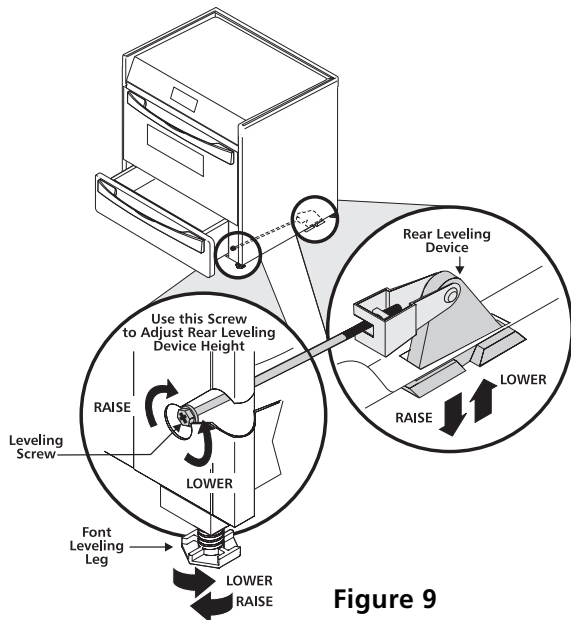

Figure 9
9. **Level the range** (figure 9). **The floor where the range is to be installed must be level.** Follow the instructions under "Leveling the Range."
2. Adjust the appliance legs as follows until the underside of the cooktop surface is sitting level on the countertop (Figure 9).